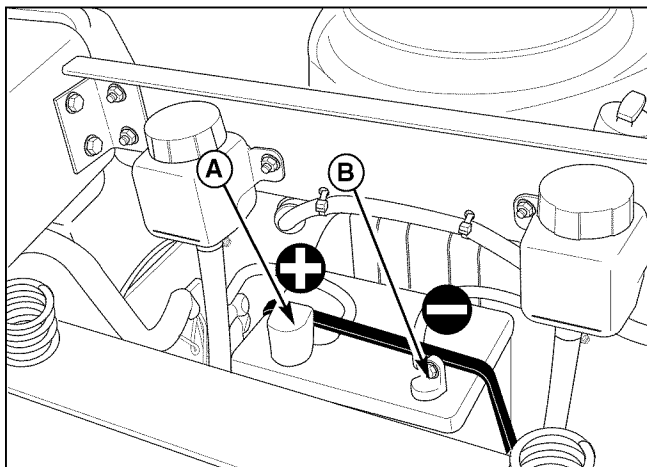

Figure 31. Battery Maintenance
1. Disconnect the cables from the battery, negative cable first (B, Figure 31).
3. Reinstall the battery and reattach the battery cables, positive cable first (see A, Figure 31)